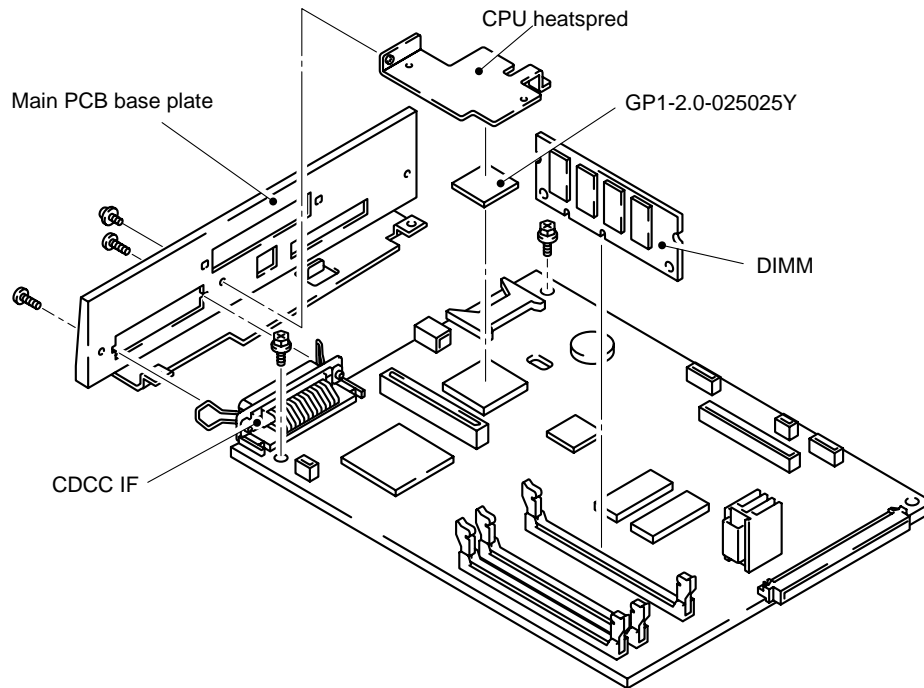

Fig.7-49
- 1) Remove the set screw ST3X6 (1 pc.). Open the shield cover B as shown in Fig.7-49 to release the three hooks and remove the shield cover B from the printer.